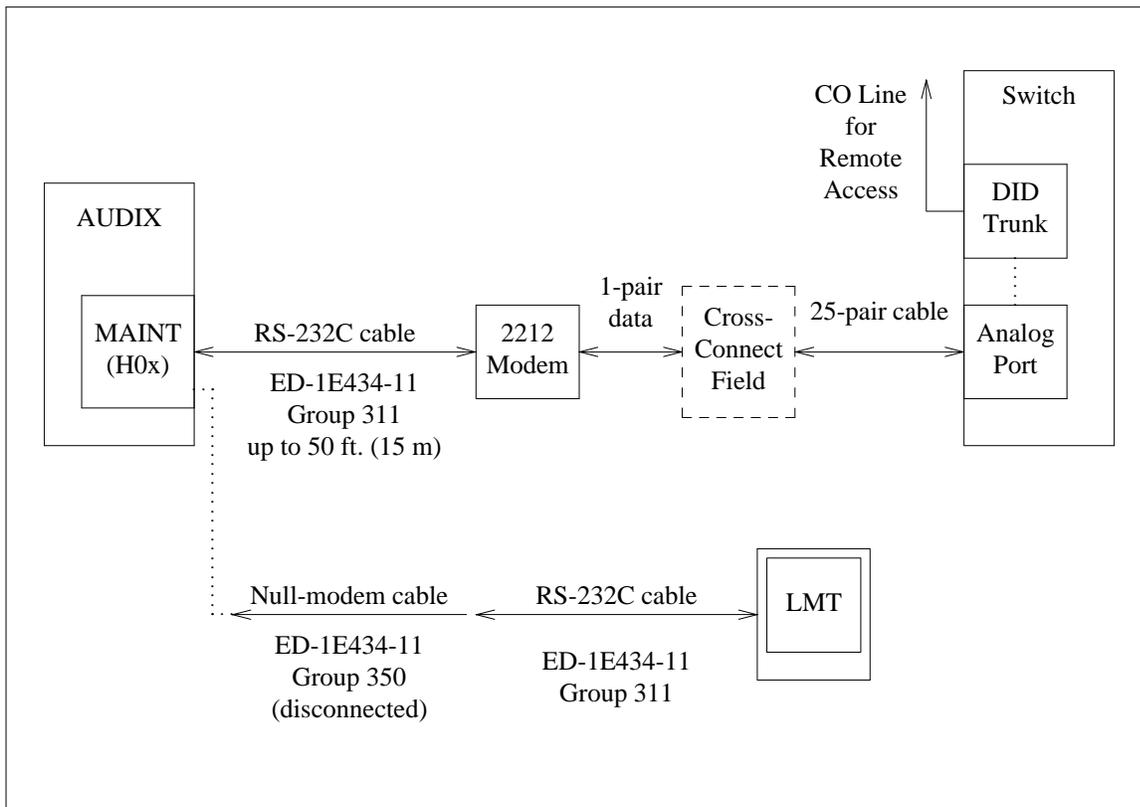

Figure 6: Remote Maintenance Terminal Cabling
- Remote maintenance link connecting AUDIX to a remote maintenance site (recommended for all systems). See figure 6.
Two maintenance links are required for AUDIX: local and remote. These links share the same connector (when the local maintenance terminal is in use, the remote maintenance link is disconnected). The remote link should be connected at all times *except* when the local link is being used by on-site service personnel (see figure 6). Usually a 2212, 212AR, or equivalent modem is attached to the MAINT connector for the remote maintenance link. The MAINT connector is labeled H00 on AUDIX and H02 on AUDIX-L.